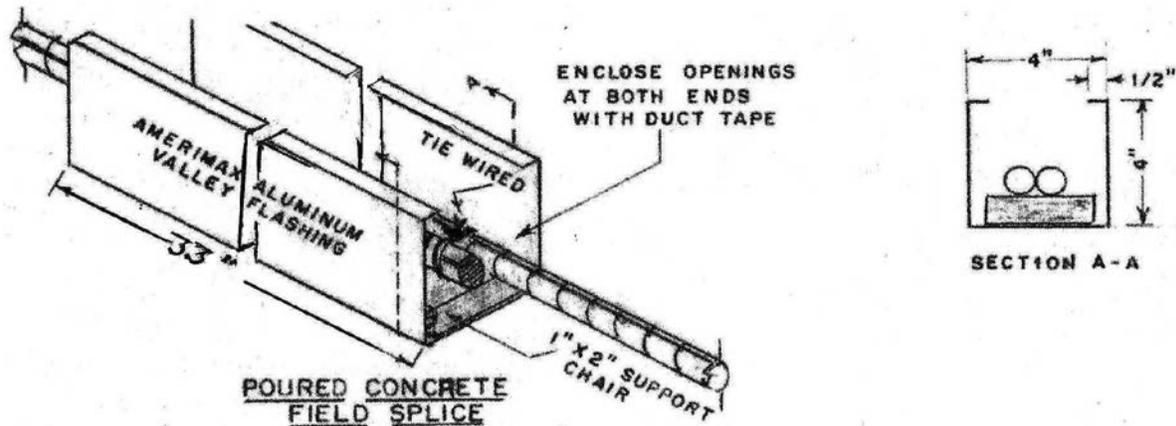

Figure 13 - Field Splice Detail
7. Using duct tape, close up both ends of the aluminum forms to prevent concrete leakage, as shown in Figure 13. First tape a 1" wide by 16" long strip circumferentially around each end. This provides a support strip across the top upon which to bond the ensuing 8" long by 1" wide duct tape strips